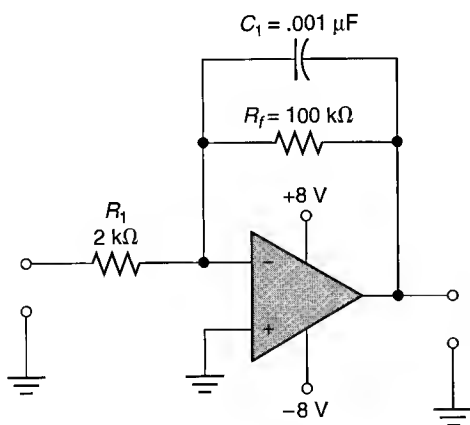

FIGURE 16.38
- Determine the cutoff frequency for the circuit shown in Figure 16.38.
- Determine the frequency at which the circuit shown in Figure 16.38 will start to lose its linear output characteristics.